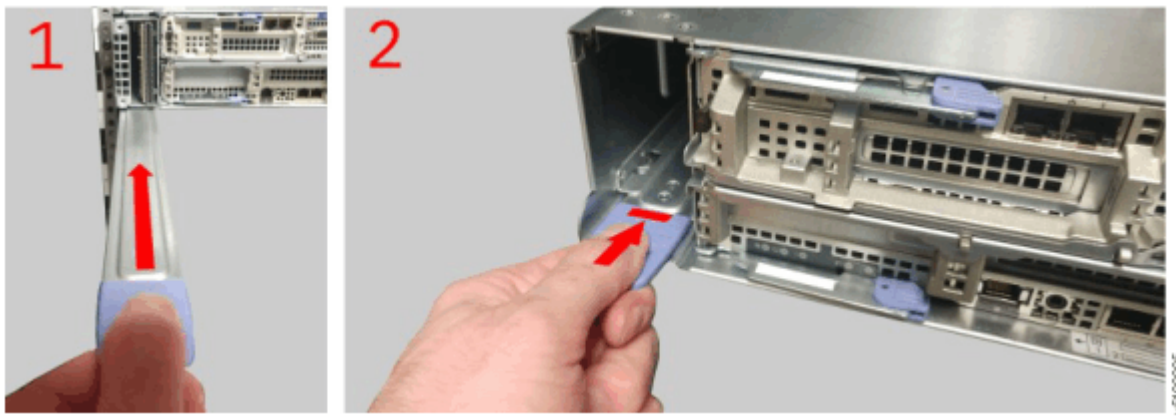

Figure 107. Inserting the new power interposer
5. Hold the power interposer so that the connectors are near the PSU slot, as shown in Figure 107 on page 146 **(1)**.
6. Slide the power interposer into the PSU slot until the handle is the only part that is visible at the rear of the enclosure, as shown in Figure 107 on page 146 **(2)**.